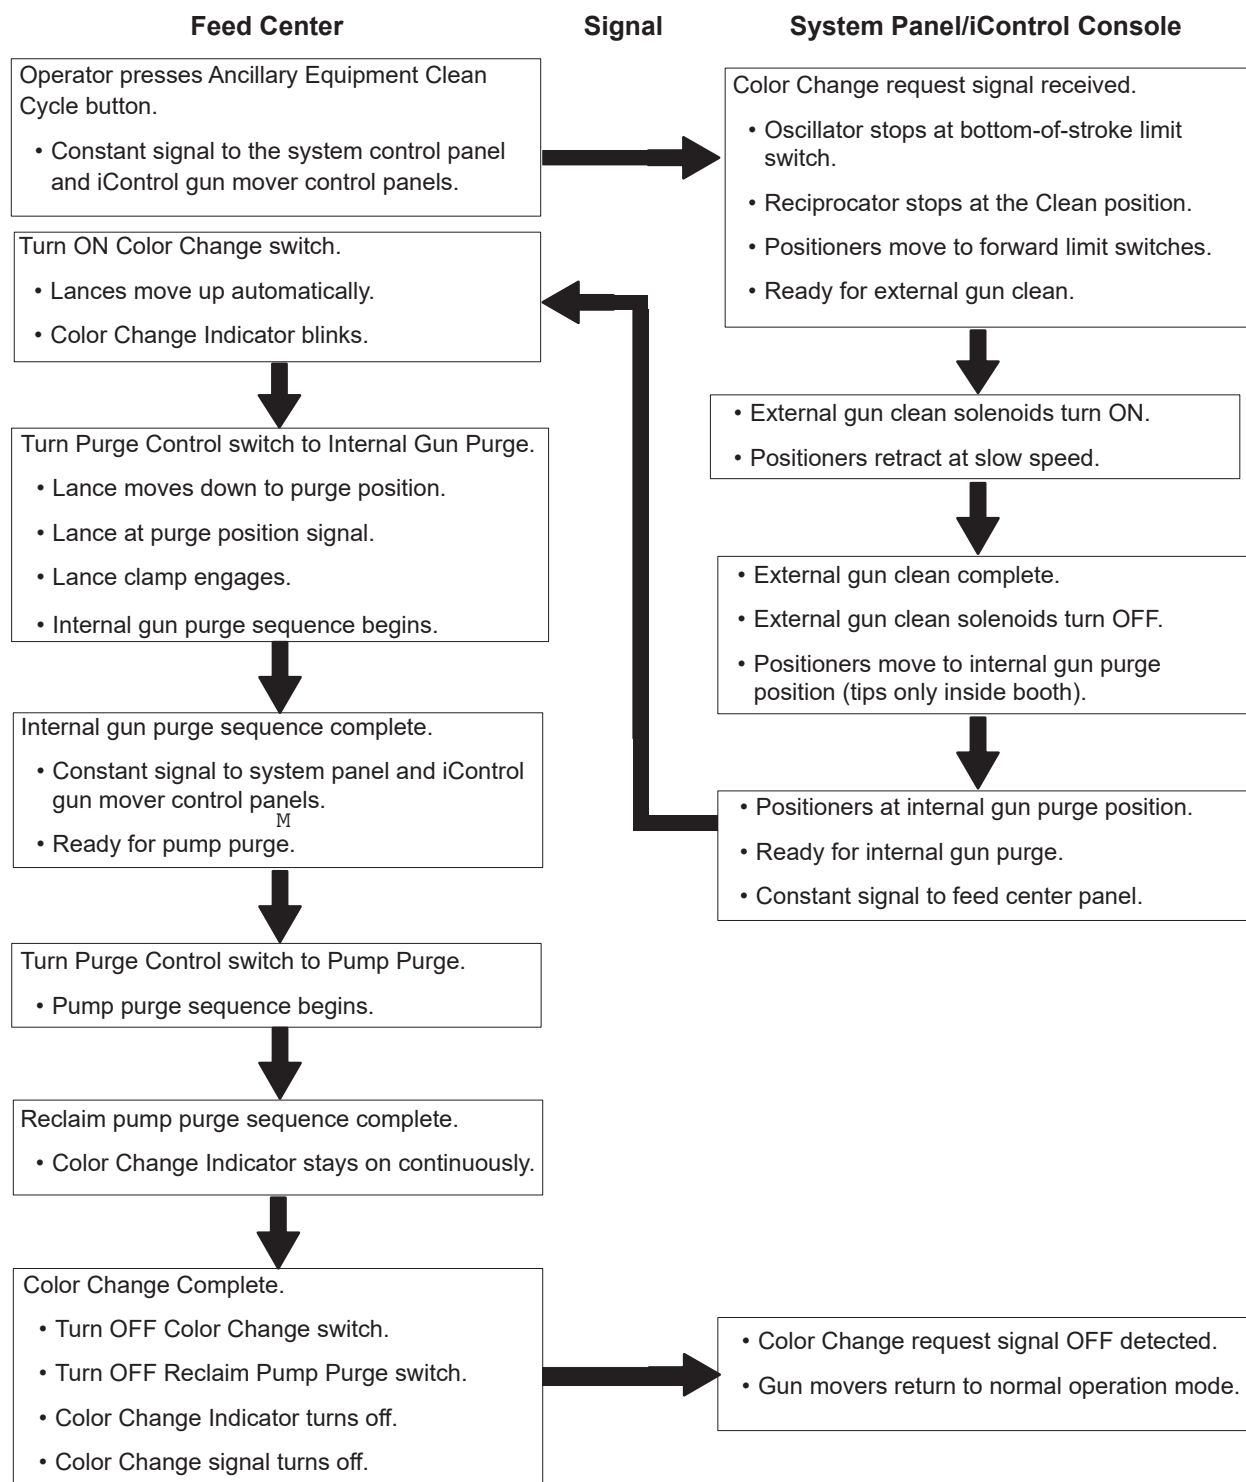

Figure 5-2 Color Change Sequence
3. Make sure compressed air is being supplied to the feed center at above 5.5 bar (80 psi) and that air pressures are adjusted properly. See Figure 5-2 for regulator locations.